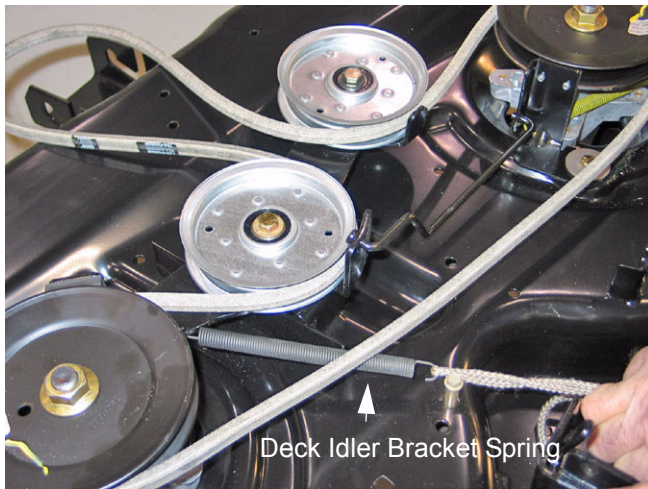

Figure 9
- 3.3. Remove the deck idler bracket spring. See Figure 9.